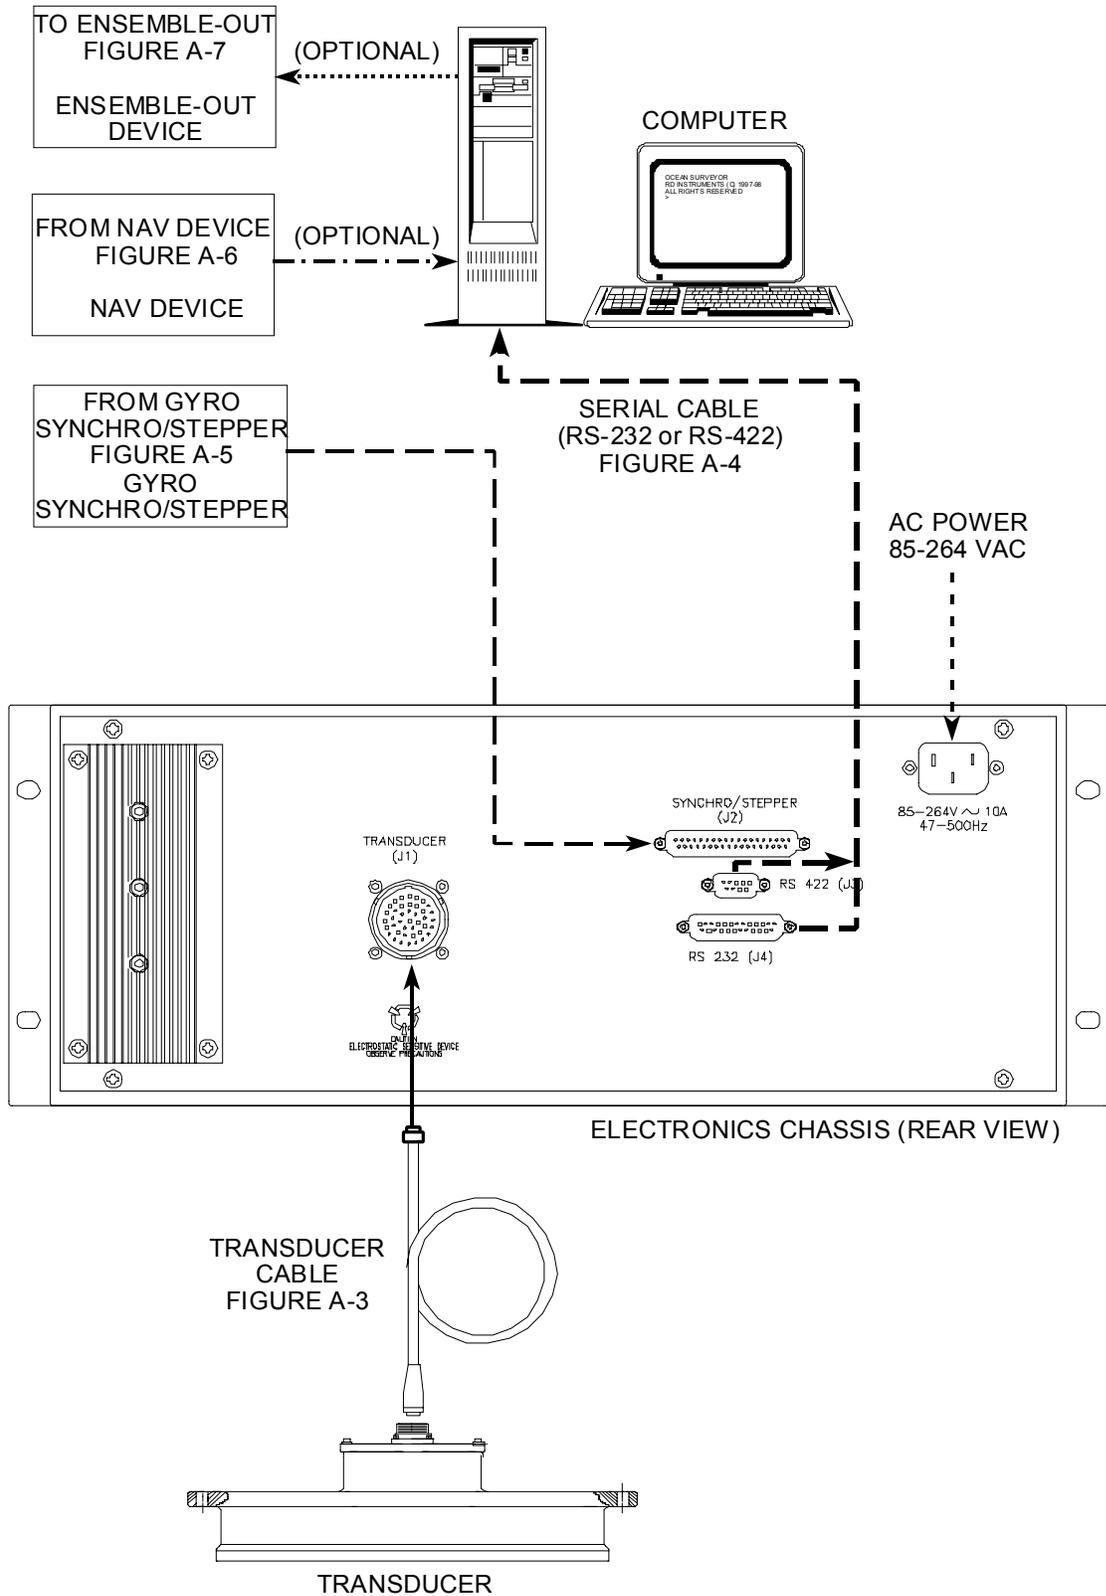

Figure 1. Ocean Surveyor Connections
As a minimum, you need the following equipment to set up the Ocean Surveyor system (see Figure 1).
Use Figure 1 and Figure 2, and the following steps to connect the system.
- a. Connected your ADCP to your computer using serial (RS-232 or RS-422) communications. See Figure 1.